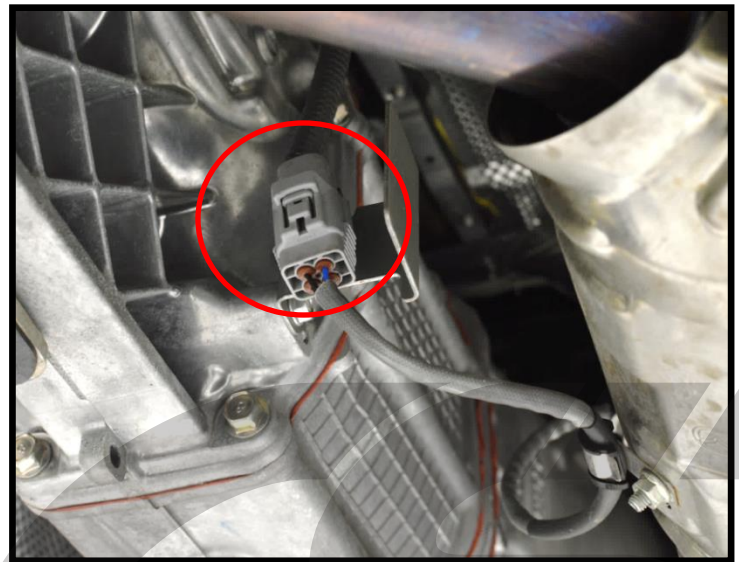

Figure 2c
- b) Disconnect the O2 sensor wire shown with the red circle in Figure 2c.